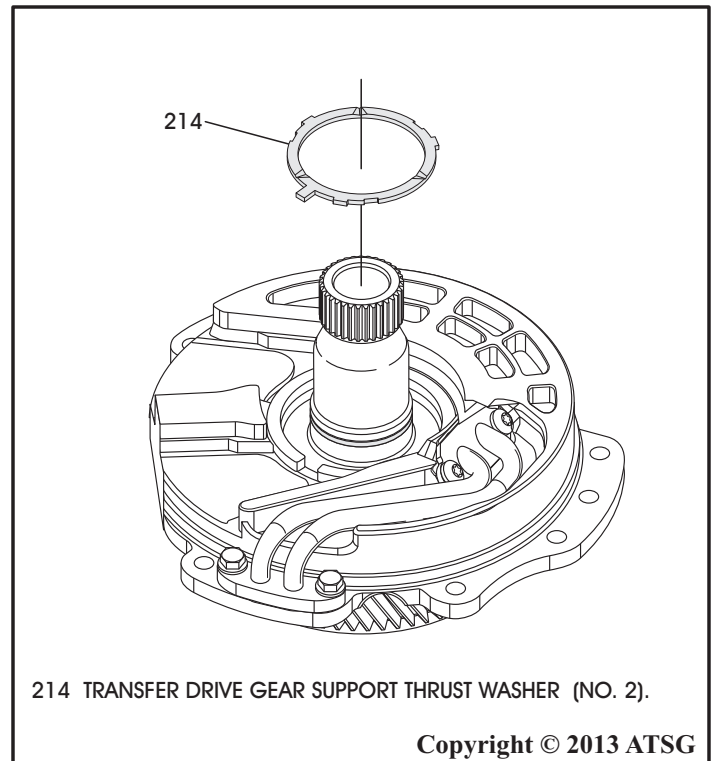

Figure 107
15. Install the number 2 thrust washer onto transfer drive gear support, as shown in Figure 107, and retain with small amount of Trans-Jel®.